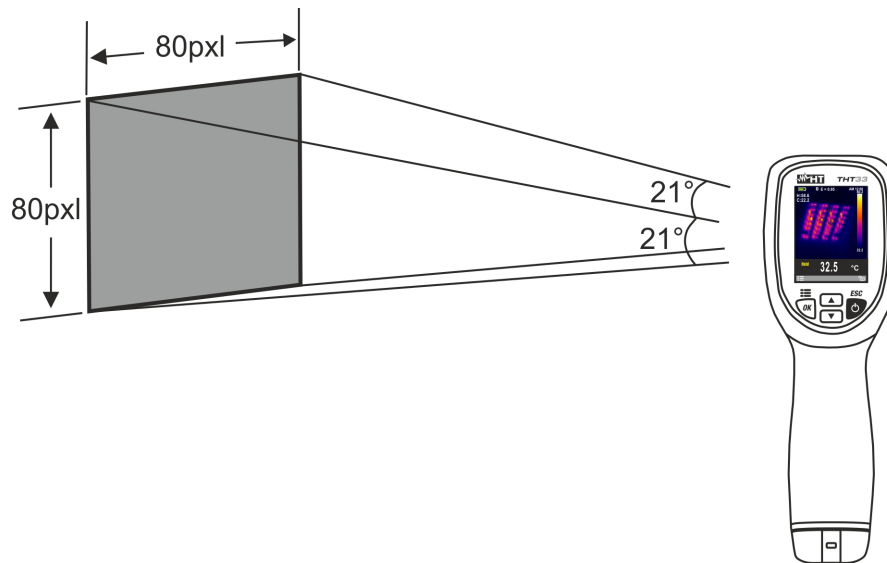

Fig. 14: Representation of the instruments field of view (FOV)
6. For accurate temperature measurements, make sure the surface of the measured object is always bigger than the surface measurable by the instrument, which is given by the instruments field of view (FOV). The instrument has a field of view of $21^\circ \times 21^\circ$ and a detection vector of 80×80 (6400) pxl, as described in Fig. 14